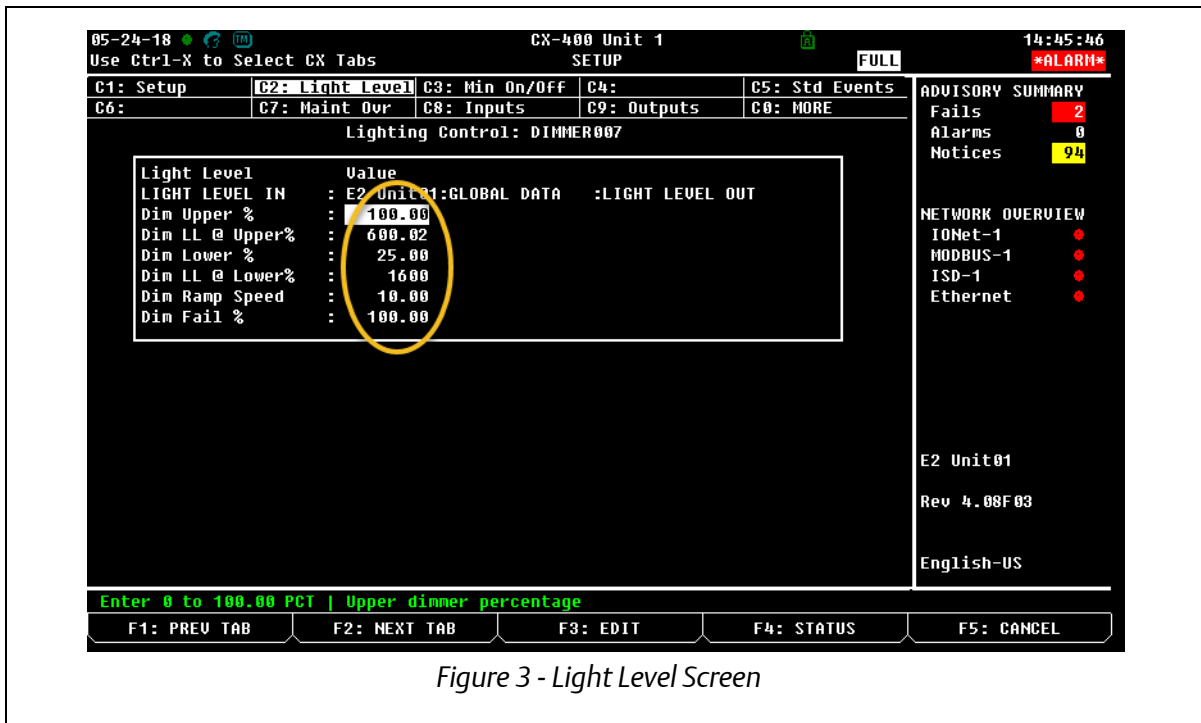

Figure 3 - Light Level Screen
5. Set the values encircled in **Figure 3** based on the desired lighting operation.